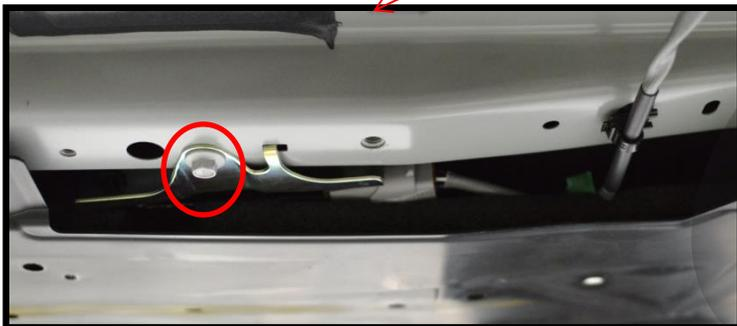

Figure 3b
- e) **Remove the O2 sensor wire bracket** using a 10mm socket to remove the bolt (red circle in Figure 3b). Then disconnect the O2 sensor wire.